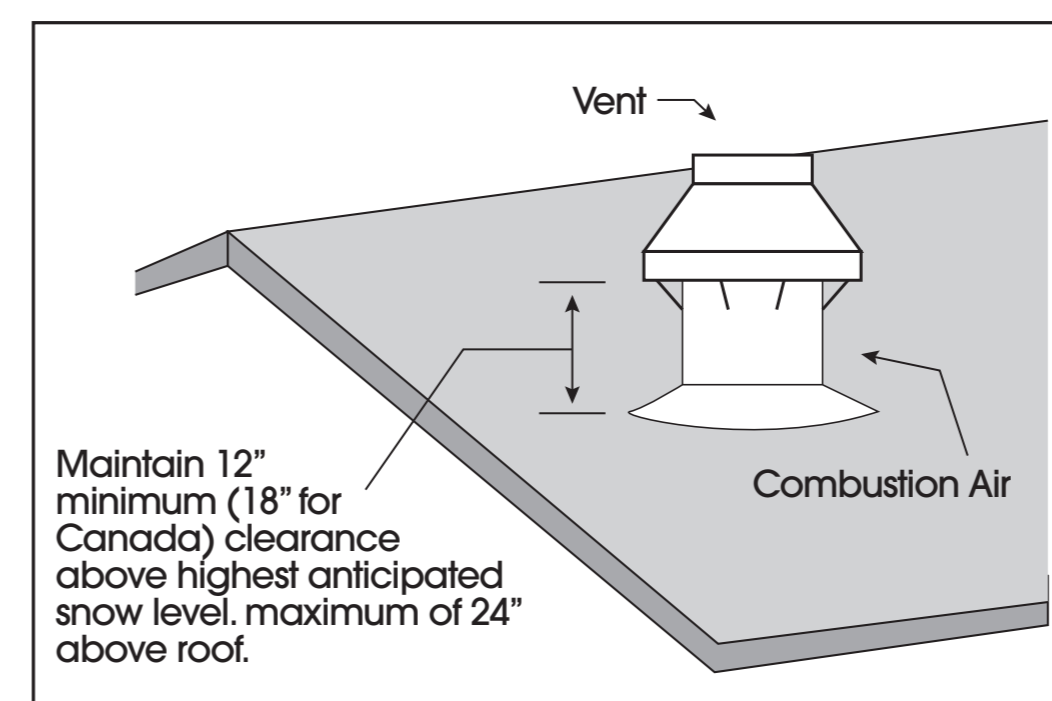

Figure 2—Typical Roof Installation
**NOTE:** Termination height must be above roof surface or anticipated snow level (minimum 12" in U.S. or minimum 18" in Canada) as shown in Figures 2 & 3.